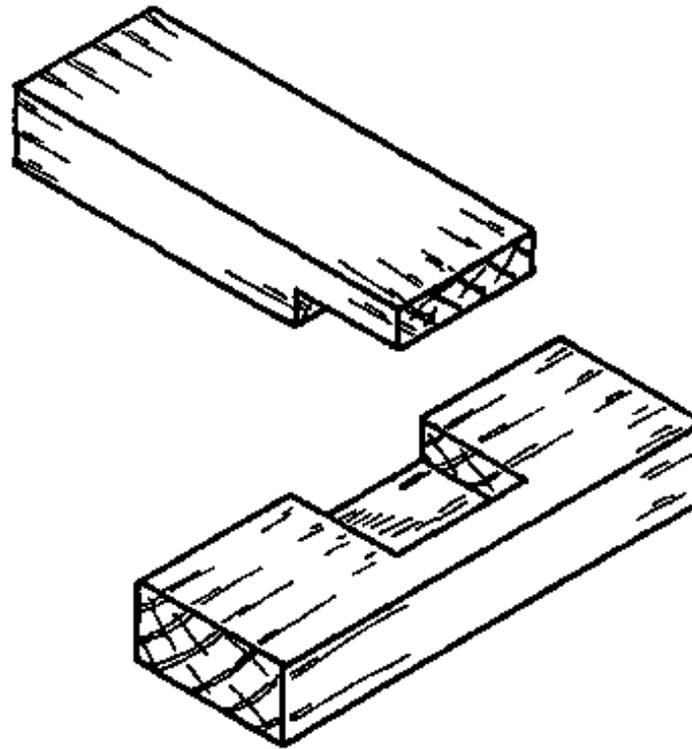

**Fig. 2**
**The third halved joint we deal with is the cross-halved joint (Fig. 2). It is used where two members cross each other.**